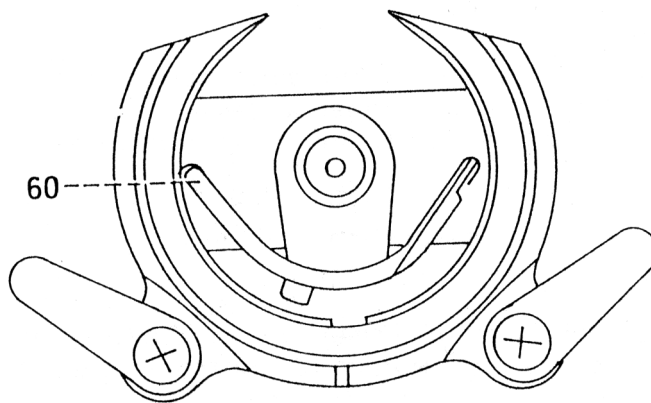

Fig. 7b
- Turn hook driver until both driver points 60 are the same distance from the top (fig. 7b).